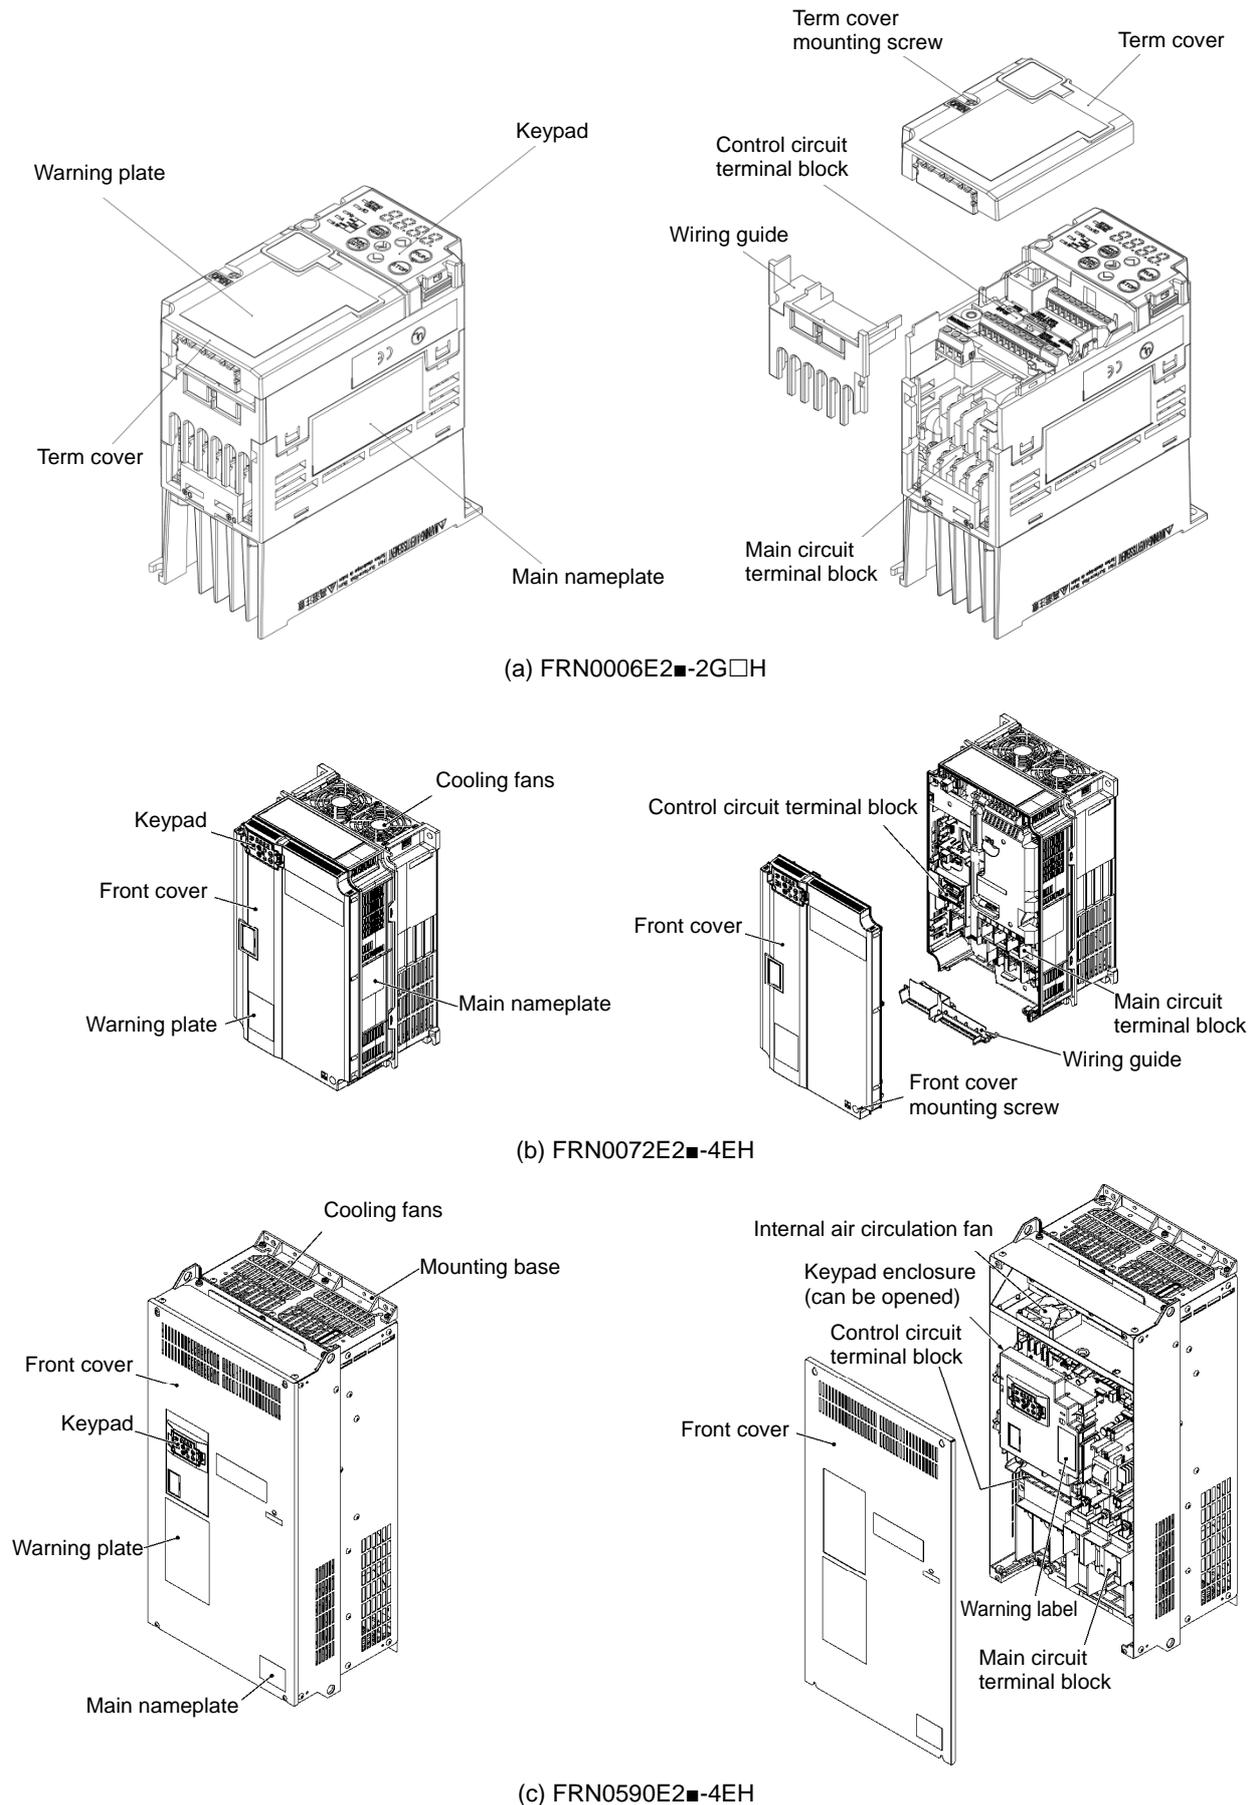

Figure H-3 Outside and Inside Views of Inverters
- (1) An inverter and the following accessories are contained in the package.
- (2) The inverter has not been damaged during transportation—there should be no dents or parts missing.
- (3) The inverter is the type you ordered. You can check the type and specifications on the main nameplate. (The main and sub nameplates are attached to the inverter as shown on Figure H-3.)